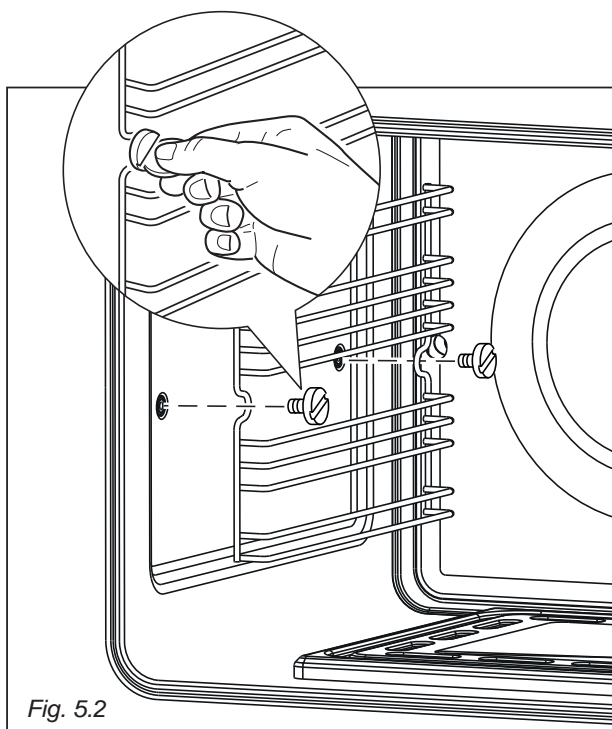

Fig. 5.2
- Assemble the wire racks to the oven walls using the 2 screws (fig. 5.2).